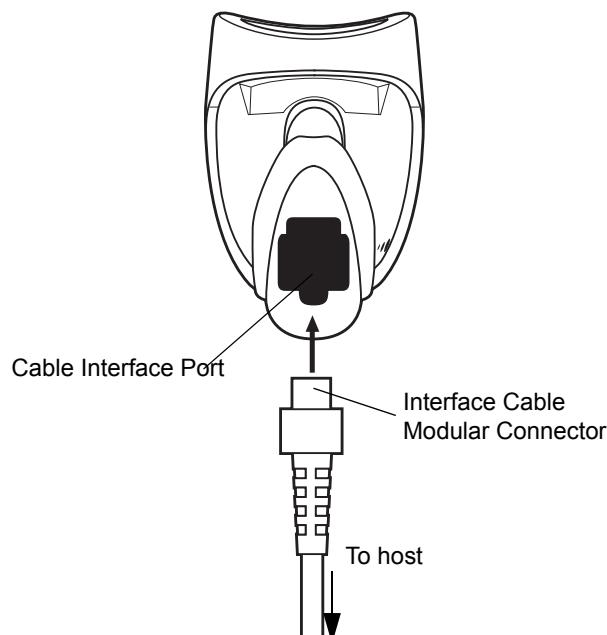

Figure 1-2 *Installing the Cable*
1. Plug the interface cable modular connector into the cable interface port on the bottom of the scanner handle. (See *Figure 1-2*.)